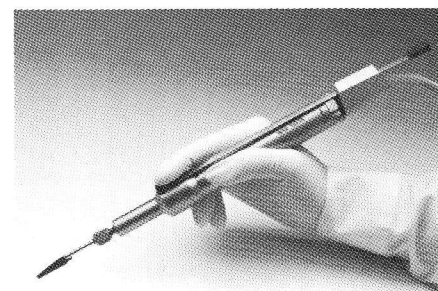

Figure 8
9. Regulate handpiece speed from zero to maximum set on console by pulling back on handswitch slide bar. See Figure 8.